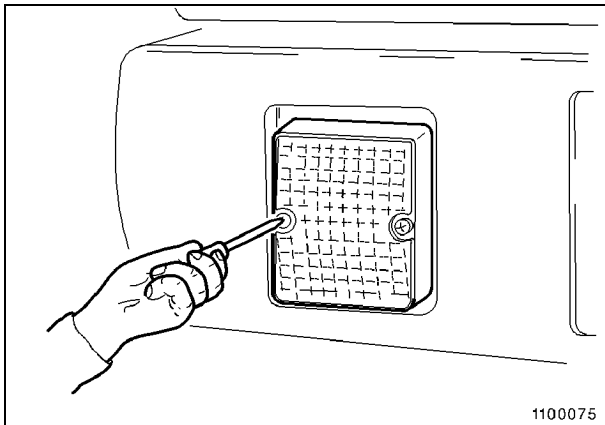

Fig. 3
- Remove the screws of the lamp glass (Fig. 3).